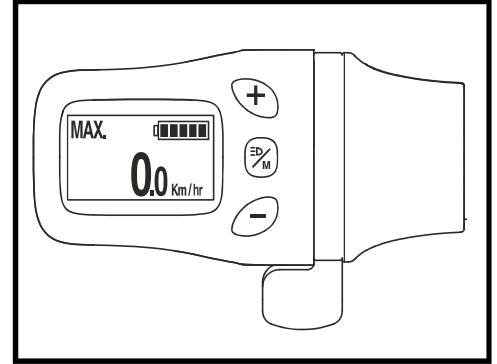

Figure 16. Battery Condition Meter
The battery condition meter on the throttle console indicates the approximate strength of your battery using a battery icon. At full charge, the icon will display five (5) bars indicating a fully charged battery. With continued use, the bars will begin to disappear as your charge drains. Once the icon is down to displaying only one bar, an immediate recharge is necessary. See figure 16. To ensure the highest accuracy, the battery condition meter should be checked while operating your scooter at full speed on a dry, level surface.